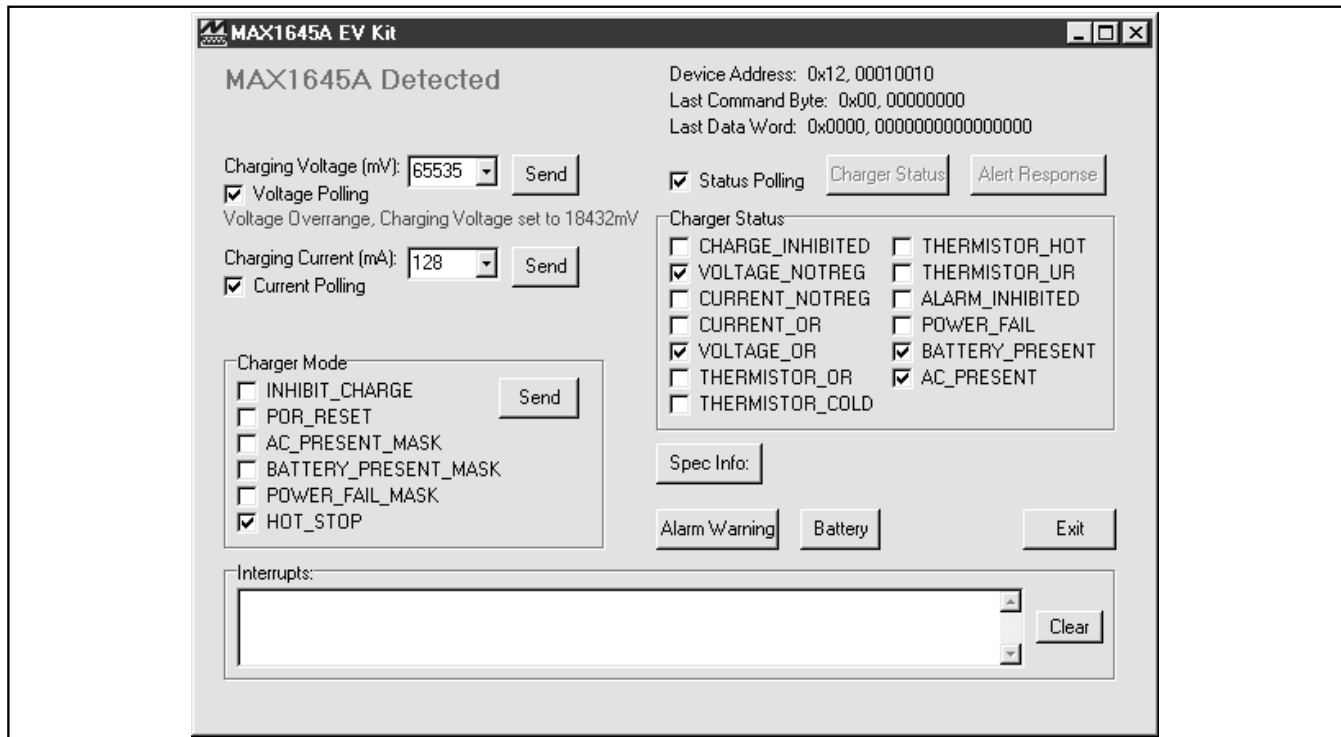

Figure 2. MAX1645A EV Kit Software Command Panel
- 8) The software should appear as shown in Figure 2. Verify that Charging Voltage = 65535mV, Charging Current = 128mA; HOT\_STOP is checked; Voltage Polling, Current Polling, and Status Polling are checked; and the following checkboxes are checked in the Charger Status panel: VOLTAGE\_NOTREG, VOLTAGE\_OR, BATTERY\_PRESENT, and AC\_PRESENT.
device. The software enables the command panel (Figure 2), after which the user may issue any of the allowed SMBus commands to the MAX1645A. (Refer to the MAX1645A data sheet for more information regarding the allowed SMBus commands.)